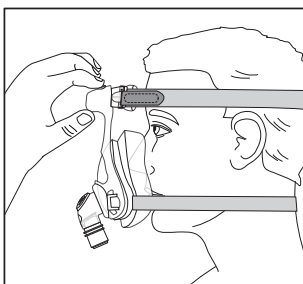

Figure 5
4. **Forehead adjuster button** - Press and hold to slide the frame toward or away from your face to adjust pressure (Figure 5). This will decrease or increase the pressure on the bridge of your nose and chin.